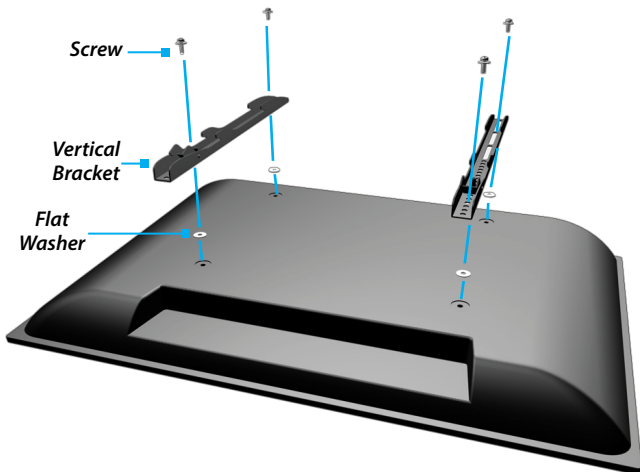

Figure 7
3. Place the four **Flat Washers** over each of the **VESA Mounting Holes**. (Figure 7)
4. Place the **Vertical Brackets** over the **Flat Washers**, parallel to one another, with the hooks on the **Vertical Brackets** pointing towards the bottom of the **TV**. (Figure 7)
5. Thread the appropriately sized **M-Type Screws** (e.g. **M4 x 12 mm Screws**) through the **Vertical Brackets** and the **Flat Washers** and into your **TV**. (Figure 7)
6. Tighten the **M-Type Screws** with a **Phillips Head Screwdriver**, until each **Screw** is flush with the surface of the **Vertical Bracket**. (Figure 7)